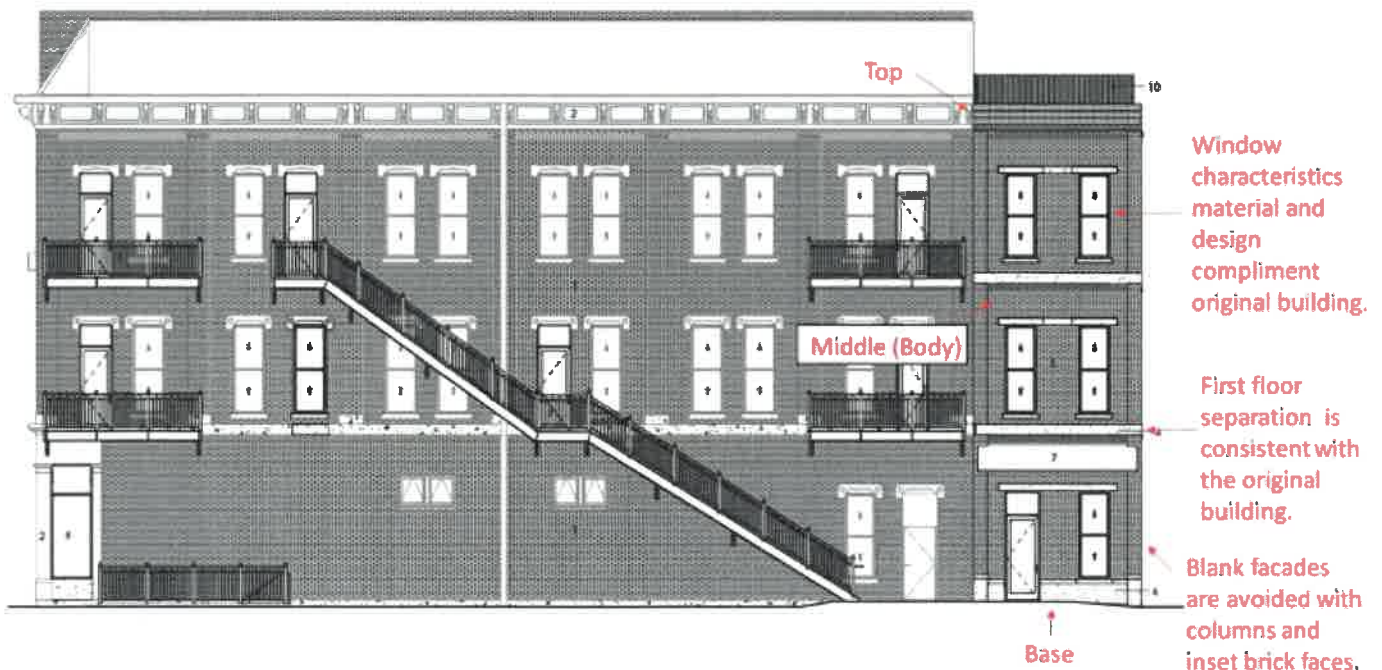

Figure A.1
**The proposed building meets the above standards. The height, mass, and design match the original building. The continuity of the original building is continued through the addition. The first-floor separation is carried through. Please see visual example in Figure A.1 below:**
The pattern and proportions of window and door openings are proportional to the original building. The addition incorporates double hung windows that functionally operate the same as the original building, with similar sizing and separation. The window to wall ratios also matches the original building. See figure A.1.